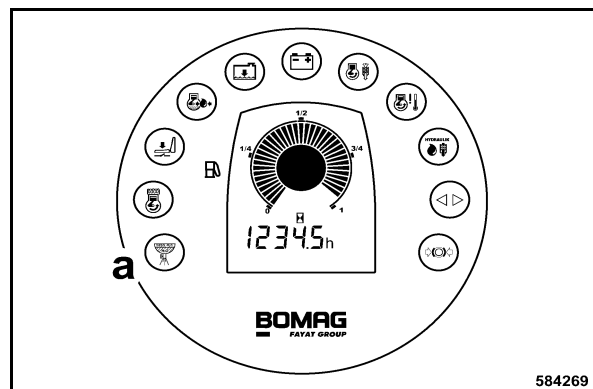

Fig. 140
- If the "water in fuel" warning light (a) (Fig. 140) lights up when starting or during operation, drain the water from the fuel filter immediately.